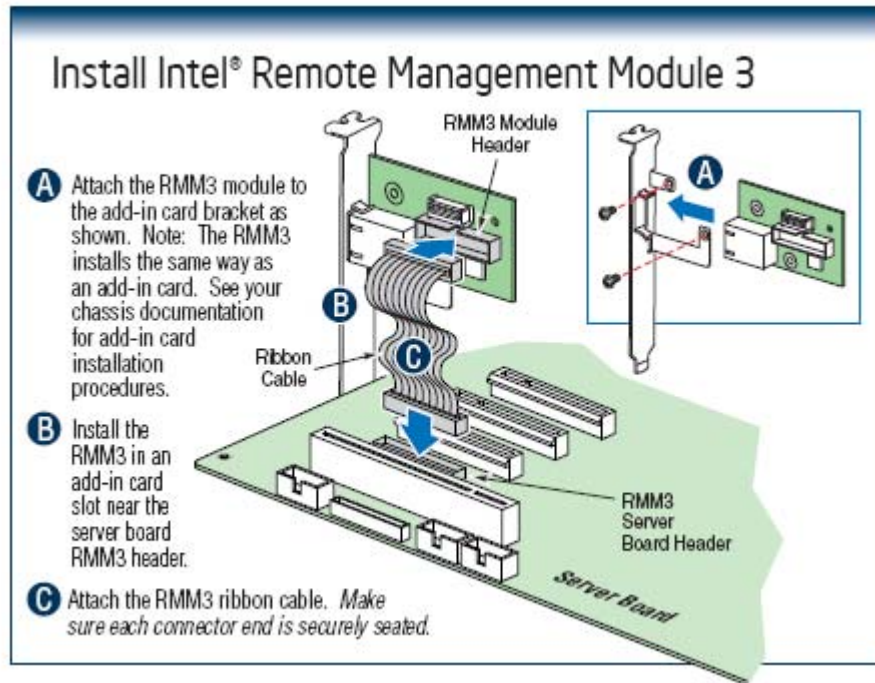

Figure 3. Installing Intel® RMM3 on Intel® Server Boards S5520HC, S5520BC, and S5520SC
1. Attach the cable from the server board to the Intel® RMM3 module as shown in figure 3.